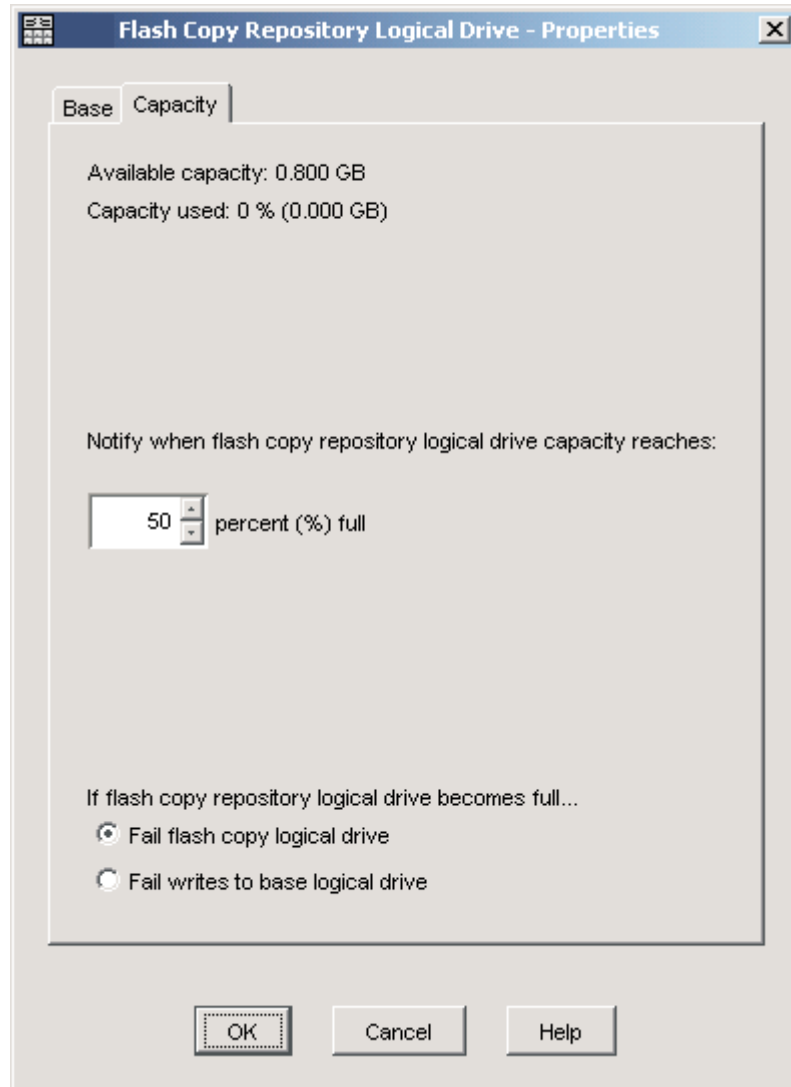

Figure 15. Repository capacity settings
3. Click the **Capacity** tab to view the currently defined settings, as shown in Figure 15 on page 47.